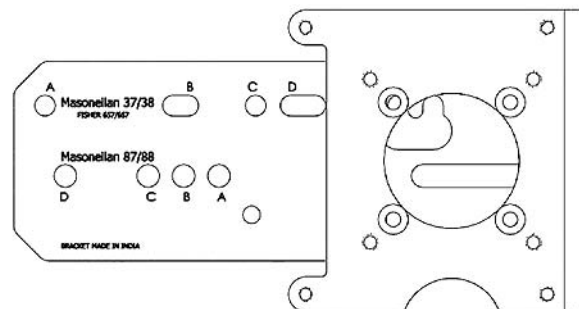

Figure 46 Reciprocating Valve Mounting Bracket
2. Mount the SVI II ESD reciprocating mounting bracket to the actuator using two (2) 5/16 - 18 UNC cap screws. The mounting location of the bracket depends on the size and stroke of the actuator. Refer to Figure 46 and Figure 6 on page 70.
3. Select mounting hole A, B, C or D for the stroke of the valve. For example, hole B is shown in Figure 46 on page 68 for a size 10 actuator with 1.0" stroke. Unless otherwise specified, the SVI II ESD mounting assumes that the actuator is in the normal upright position. The mounting hole in the slotted opening of the mounting bracket must be left when facing the actuator, with the actuator in the upright position.